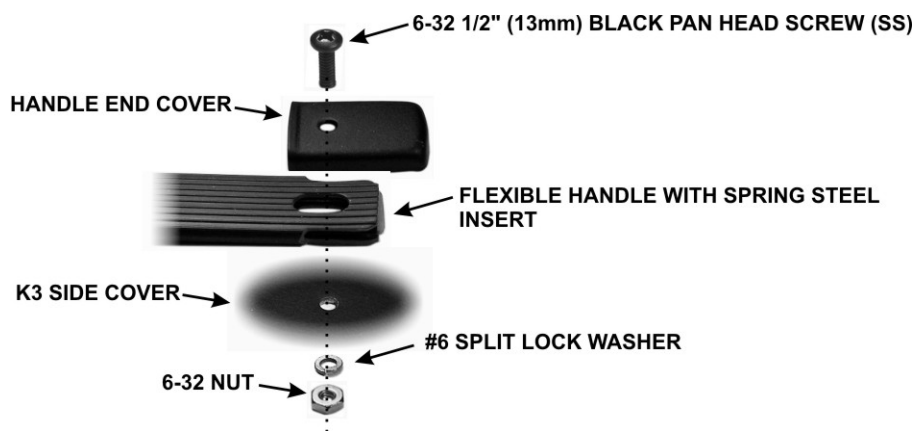

Figure 15. Installing Side Handle Mounting Hardware.
- Attach the handle to the left side cover using the hardware shown in Figure 15 at each end. The ribbed side of the handle faces away from the panel. Tighten the screws enough to compress the lock washers, but do not tighten the screws so much that you deform the handle end cover. The handle should move easily to allow room for your fingers between the handle and cover for carrying, then lie flat against the cover when it is not in use.